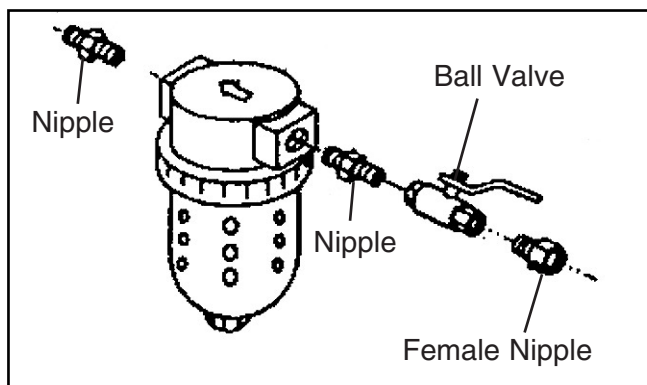

Figure 6. Water separator assembly.
7. Install the remaining ball valve to the water separator with two $\frac{3}{8}$ " nipples, and the $\frac{3}{8}$ " female nipple as shown in **Figure 6**.